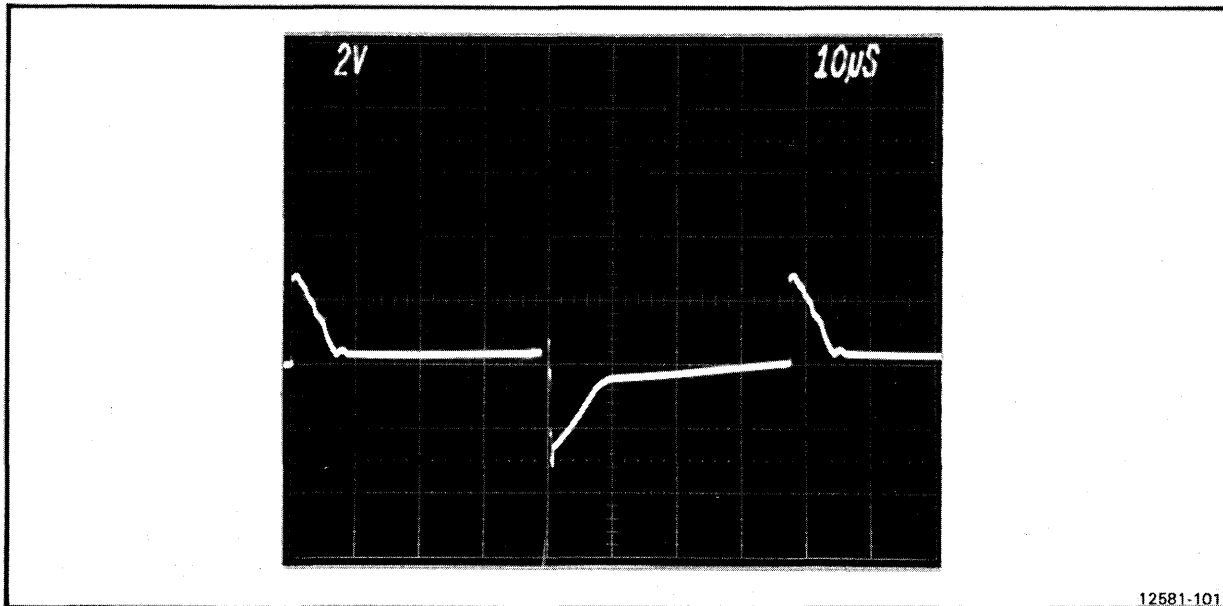

Fig. 12-8. Q2025/Q5025 base-emitter voltage waveform.
8. Turn the 8560 DC power switch ON. The scope should display the waveform shown in Fig. 12-8, or a waveform shifted from this by 180 degrees. If the waveform is correct, proceed to step 10.